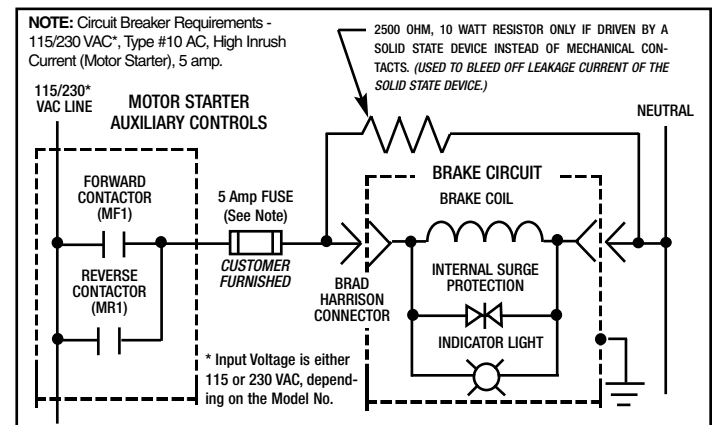

Figure 6 - Electrical Wiring Diagram
If your **MagnaShear Motor Brake** is shipped pre-assembled to a drive motor, it is filled with oil and ready to run except for installing the Air Breather (#45) and electrical wiring. (See Figures 6 and 7 for Electrical Wiring Diagram and Connector.)
3. Connect the electrical service to the Brad-Harrison Connector and actuate the brake coil to release the brake. (See Figures 6 and 7)
4. Evenly torque the (2) Screws in the Clamping Collar (#111) to 20 Lb. Ft.
● WIRING SPECIFICATIONS (See Figures 6 and 7)